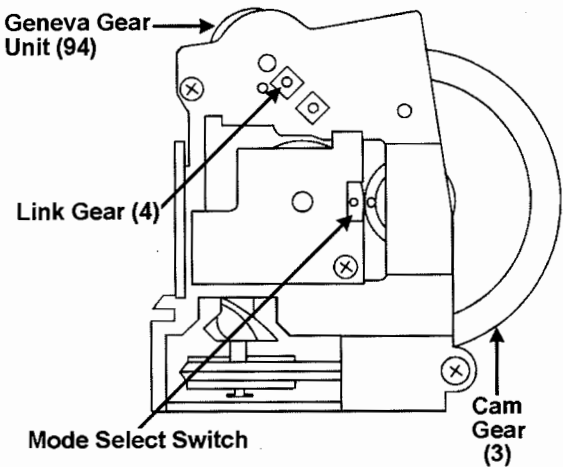

Figure 3
Align the geneva gear unit (94) and the mode select switch with the cam gear (3) as shown in figure 3. Align the holes on the link gear (4) with the holes on the geneva gear unit and the cam gear.